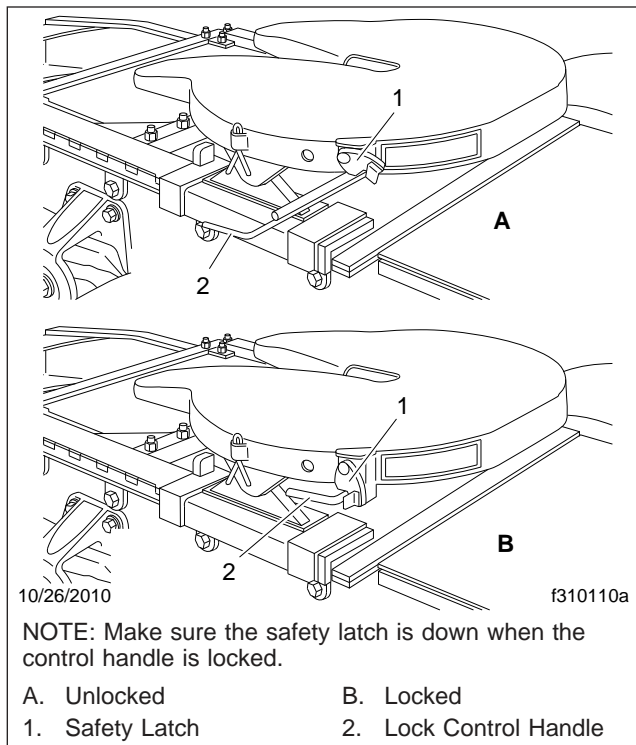
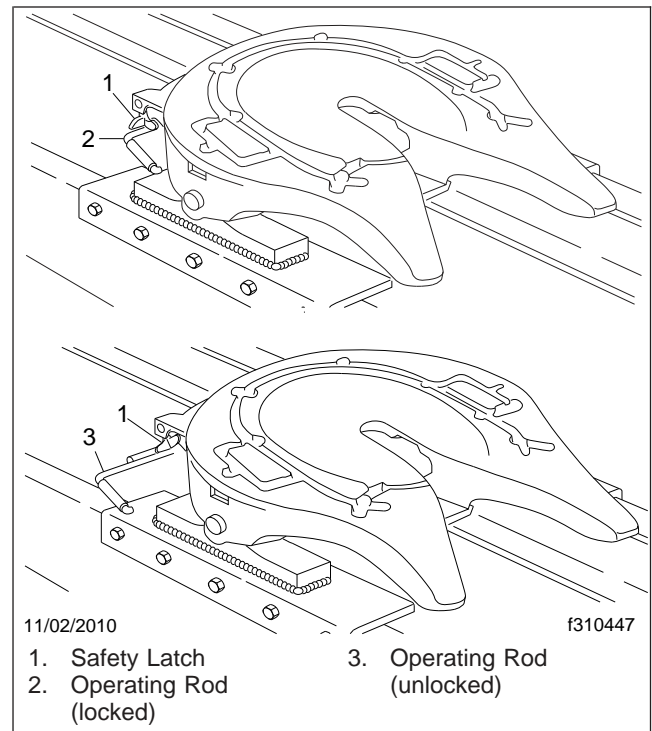

Fig. 17.2, Fontaine Locking Mechanism
Fig. 17.3, Holland Simplex SE Locking Mechanism
2. Ensure the fifth wheel jaw is fully open and the operating rod is in the unlocked position. See Fig. 17.2 or Fig. 17.3.
When lockup has occurred, the fifth wheel control handle moves to the locked position. Make sure that the safety latch is down over the lock control handle to hold the control handle in the locked position (the safety latch will only rotate down if the operating rod is fully retracted in the locked position). See Fig. 17.2 for Fontaine fifth wheels. See Fig. 17.3 for Holland fifth wheels.
- 6.1 **Fontaine:** Lift the safety latch and pull the lock control handle to the unlocked position. See Fig. 17.2.